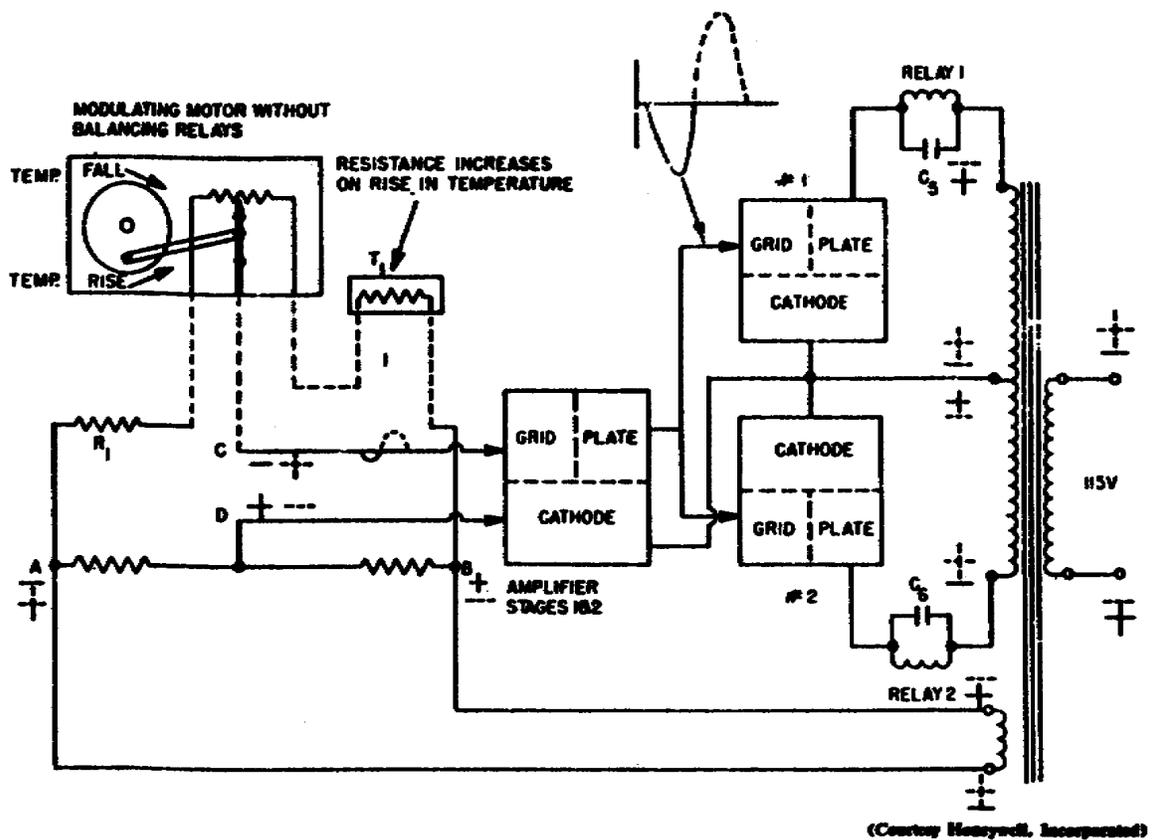

Figure 132. Modulating control.
10. For modulating control, illustrated in figure 132, a modulating motor is used with a balancing potentiometer. The balancing potentiometer is wired in series with the thermostat resistor. Its purpose is to bring the bridge back into balance (no voltage between points C and D) when a deviation has been corrected. Assuming a rise in temperature at T_1 and the polarity shown by the solid symbols, point C will be negative. Neither of the discriminator tubes will conduct because the control grids